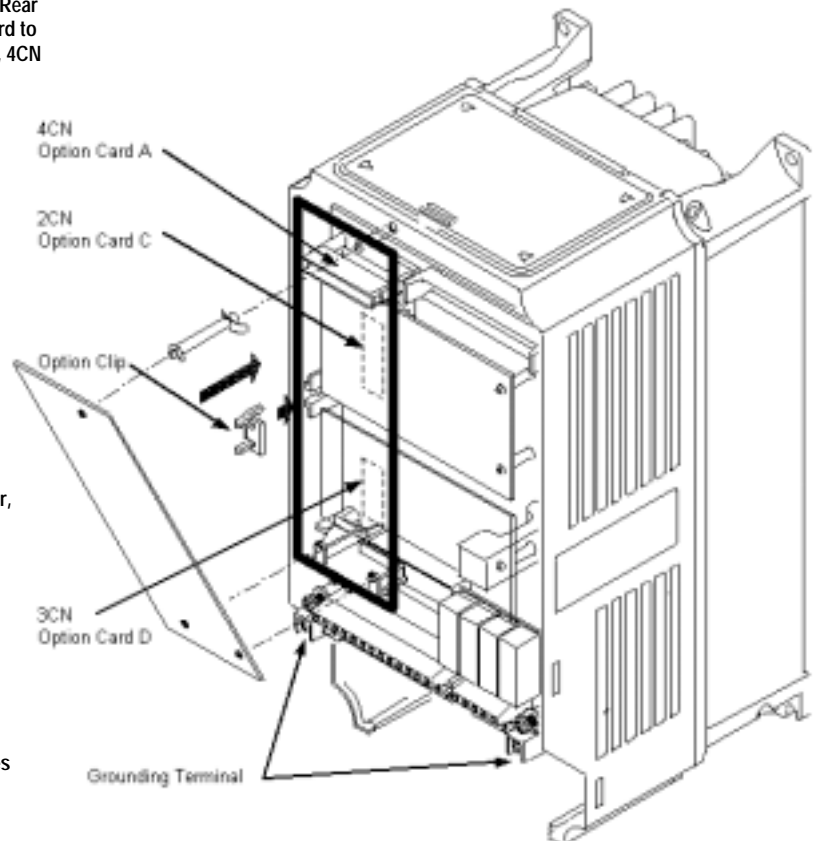

Figure 2. PG-X2 Option Card installation
- If other option cards are to be installed at the Option C (2CN) or Option D (3CN) positions (See Figure 2), their installation and wiring should be completed before installation of this option.
- f. Insert the spacer into the mounting hole in the base of the drive, just above the top edge of the control board. See Figure 2.
7. PG-X2 Installation: See Figure 2.